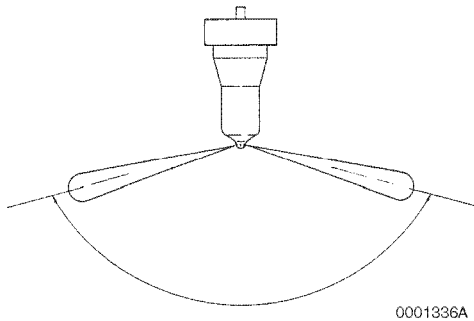

Figure 6-91
- Pump the operating lever more rapidly to repeatedly pop the injector and observe the spray pattern. The pattern should be a very fine uniform spray (Figure 6-91). If dripping or an uneven pattern is seen (Figure 6-92), service or replace the injector.